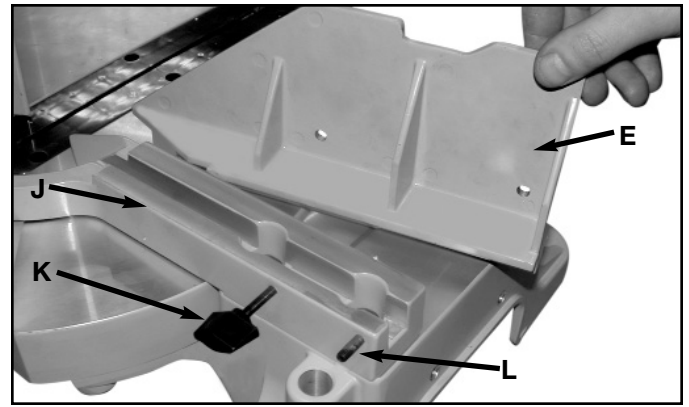

Fig. 7C
1. Position the sliding fence (E) Fig. 7C, on top of saw fence slide support (J). Install thumb screw (K) and set screw (L) but do not tighten at this time.